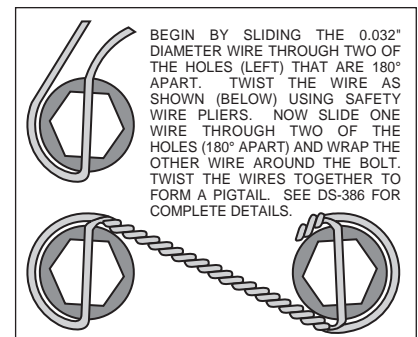

Figure 4. Safety Wire Diagram
- Attach rotor adapter (8) to rotor (9) using six bolts (10). Torque bolts (10) to 180 in-lb. Safety wire bolts (10) using standard 0.032 inch diameter stainless steel safety wire as shown in Figure 4. Please refer to Wilwood's data sheet DS-386 (available at www.wilwood.com/pdf/ds386.pdf) for complete safety wire installation instructions. **NOTE:** The flat side of the rotor (8) lugs face toward the rotor adapter (9) with the dished side of the rotor adapter (8) facing away from the rotor (9).
- Mount the adapter/rotor assembly (8 and 9) to the hub (5) using six bolts (11). Torque bolts (11) to 22 ft-lb. Safety wire bolts (11).
- Pack the small outer bearing cone (12) with high temperature disc brake bearing grease and install into front of hub (5). Slide the hub/rotor assembly (5 and 9) with outer bearing cone (12) onto the spindle. Secure using stock washer, adjusting nut and nut locking device.
- Install the dust cap (15) onto the hub (5). Friction created by the o-ring (14) on the dust cap (15) keeps it from unscrewing. The O.D. of the existing spindle washer may be larger than the I.D. of the dust cap (15) not allowing it to seat against the hub face. Therefore, use the spindle washer (13) supplied with the kit instead of the stock washer.
- **NOTE:** Please reference the caution statement at the beginning of the assembly instructions. With the bleed screws pointing up, mount the caliper (16) onto the caliper mounting bracket (1) using lock washers (17) and bolts (18). Finger tighten. View the rotor (9) through the top opening of the caliper (16). The rotor (9) should be aligned in the center of the caliper (16). If not, adjust the caliper (16) by using 0.032 inch thick shims (19) placed between the caliper mounting bracket (1) and the caliper (16). Add as many shim washers (19) as necessary to achieve the correct alignment. Always use the same amount of shims on both the top and bottom caliper mounting bolts (18). Finger tighten and recheck alignment, adjust as necessary. Apply red *Loctite*® 271 to bolt threads (18) and torque to 30 ft-lb. Safety wire caliper bolts (18).
- Install the disc brake pads (20) into the caliper (16). Secure the disc brake pads to the caliper utilizing cotter pin (21).